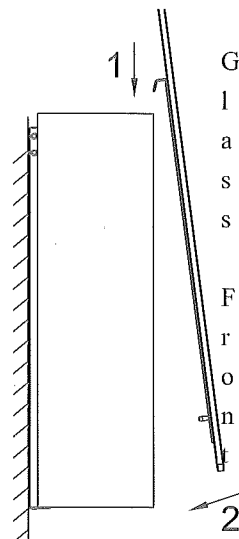

Fig. 7
8. Install the fireplace front as pictured. (Fig. 7) Secure the fireplace front with 2 M4×8 screws in the tabs on top of the fire box